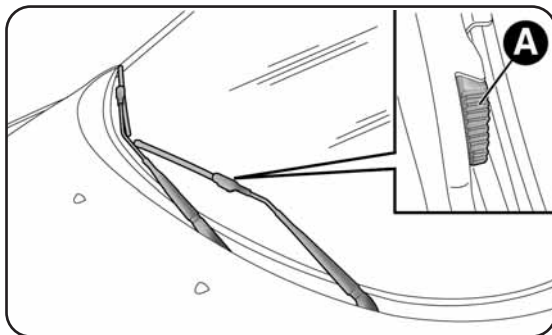

fig. 6
- press tabs (one on each side) A-fig. 6 on the attachment clip and remove the blade from the arm;